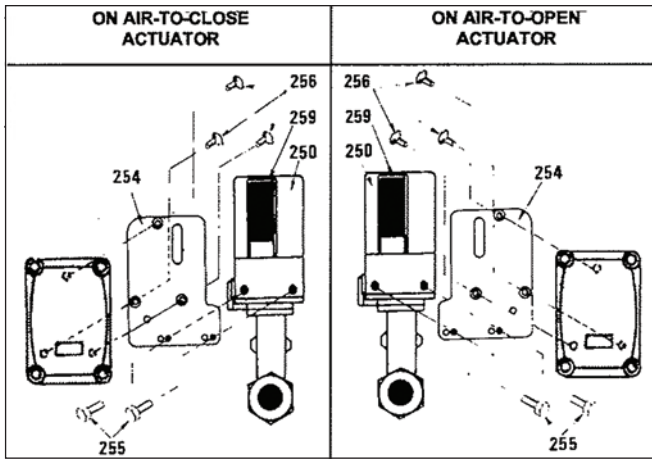

Figure C4 - Position of the support plate
- Fasten the case/support plate S/A to the valve with two cap screws (255) (see figure C4 in order to choose the proper introduction holes).